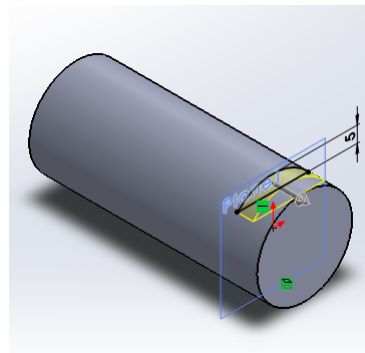

Fig18
- The sketch can be placed onto a plane which is parallel to the end face of the cylinder. In this case the content of the sketch would be a circular segment (*Fig18*);